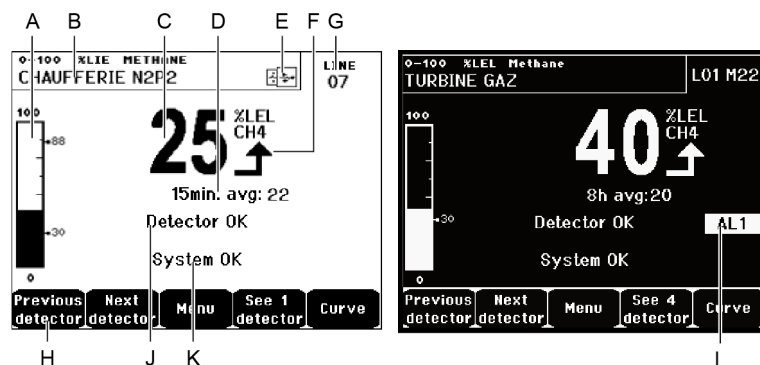
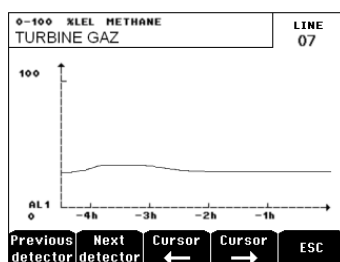

Figure 44: Example of the measurement display in normal mode and in inverse video.
Figure 45: Example of a curve display screen.
H.	Function keys. ■ Previous detector: Display of measurements of previous detector; scanning of all the detectors on all the lines. ■ Next detector: Display of measurements of next detector; scanning of all the detectors on all the lines. ■ Menu: Display of main menu See paragraph "Main menu" on page 47. ■ See 4 Detectors: Display of a group of 4 detectors (detector tag, barograph with indication of alarms, value of current measurement with unit and gas detected). Use the Page down or Page up keys to display all of the next 4 detectors; passage to the next zone is automatic. ■ See 8 Detectors: Display of a group of 8 detectors (detector tag, value of current measurement with unit and gas detected). Other buttons similar to the selection. See 4 detectors. ■ See 16 Detectors: Display of a group of 16 detectors (detector tag, value of current measurement with unit and gas detected). Other buttons similar to the selection. See 4 detectors. ■ See 1 detector: Display in normal mode (Figure 44). ■ Curve: Display of the measurement curves of the last 4 hours (Figure 45). The → and ← keys allow cursor displacement through the time scale. The vertical dotted line displays the concentration and time stamp of the point being considered. Escape: return to display of values.
- L. Zone of indication of activated alarms with blinking threshold display. The screen changes to inverse video (Figure 44, screen on the right).